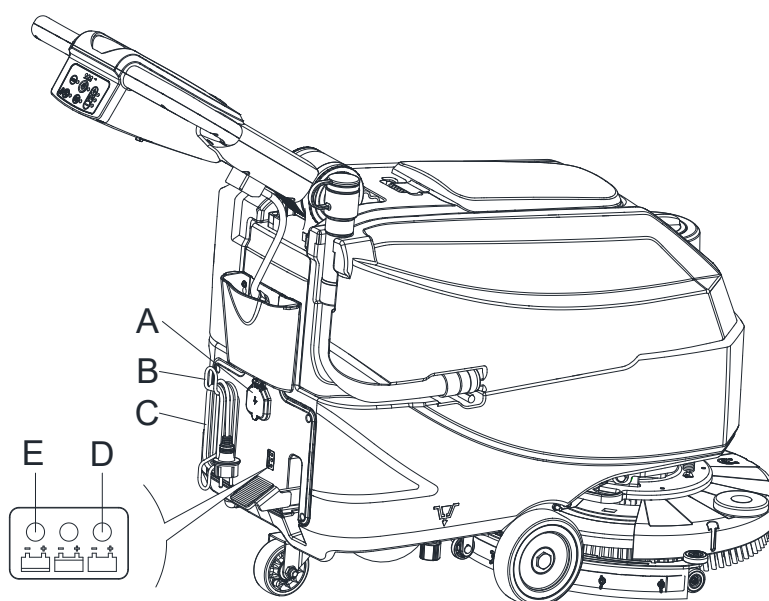

Figure 13
1. Connect the battery charger cable (C, Figure13) to the electrical mains (A) the electrical mains voltage and frequency must be compatible with the battery charger values shown on the machine serial number plate (41, Figure 2). When the battery charger is connected to the electrical mains, all machine functions are automatically cut off. If the red warning light (E) on the battery charger control panel stays on, the battery charger is charging the batteries.
2. When the green warning light (D) turns on, the battery charging is completed.
3. When the battery charging is completed, disconnect the battery charger cable (C) from the electrical mains (A) and wind it round its housing (B).